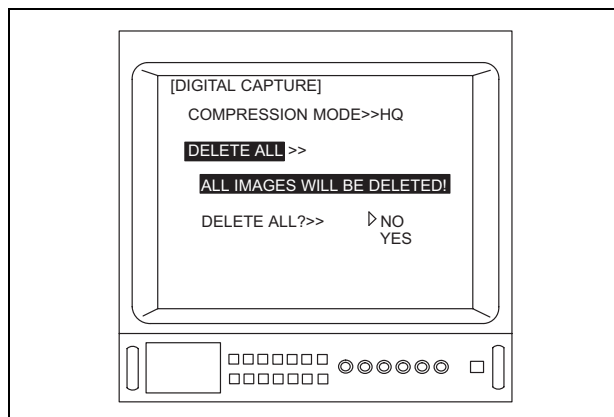

Figure 5.105
7. Depress the menu switch "◀" or the "Enter" key on the keyboard to display the next menu. The menu shown in Figure 5.105 is displayed on the video monitor.